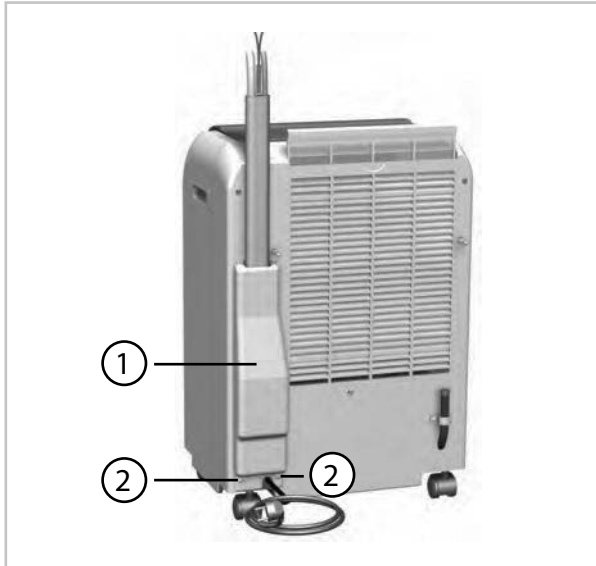

Fig. 12: Rear view, indoor unit
3. ➤ Remove the 2 screws from the cover on the rear side of the unit (Fig. 12).